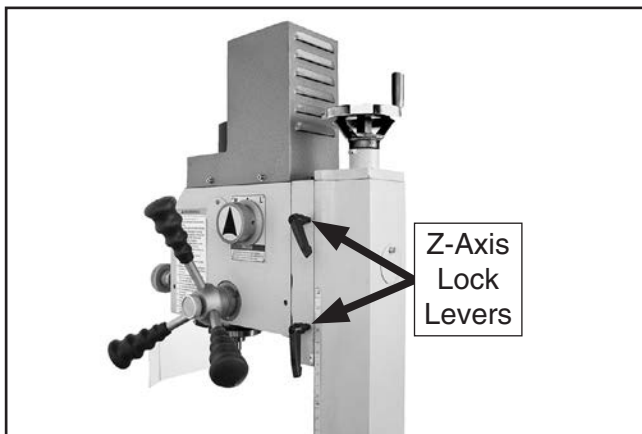

Figure 20. Location of Z-axis lock levers.
2. Loosen both Z-axis lock levers shown in **Figure 20**.